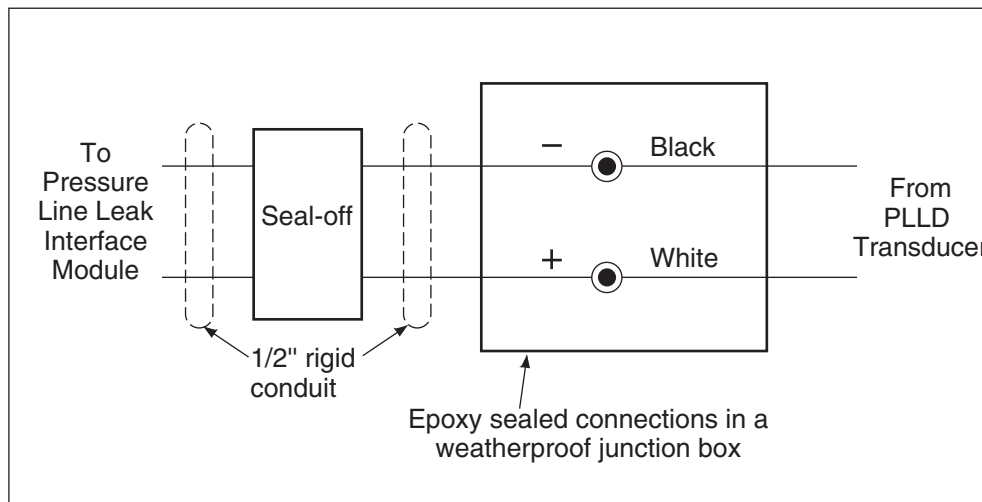

Figure 15. Field Connections Of PLLD Transducer
1. Using wire nuts, connect the white and black wires from the PLLD transducer to field wires in the weatherproof junction box (ref. Figure 15). **Be sure to maintain correct polarity between the color-coded or marked field wires and PLLD transducer wires when making all connections. Cut off the transducer shielded ground wire (if present) flush with the cable jacket. Do the same for the cable shield.**